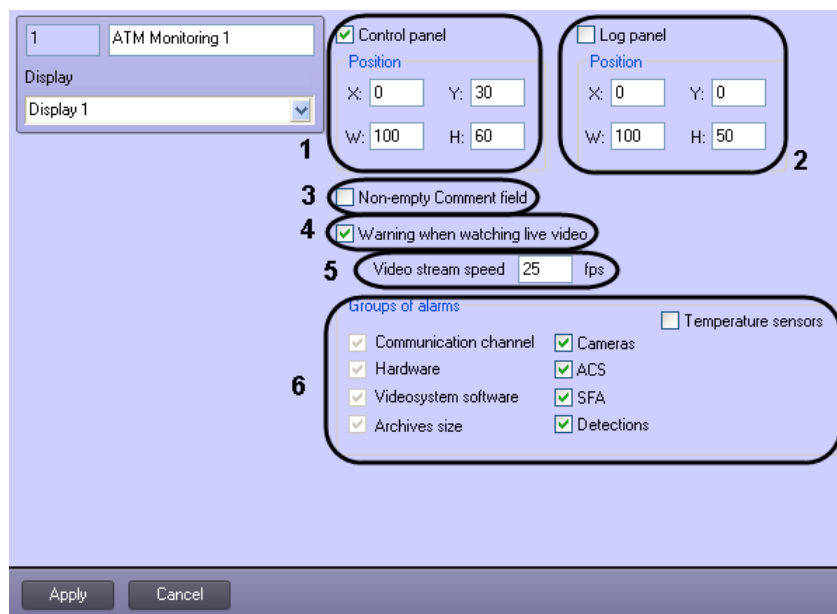

Figure 10.1—1 Configuring the ATM Monitoring object
1. Go to the **ATM Monitoring** settings panel (Figure 10.1—1).
2. If the **Control panel** displaying is needed, set the **Control panel** checkbox and specify its coordinates on the screen (Figure 10.1—1, 1).
3. If the **Log panel** displaying is needed, set the **Log panel** checkbox and specify its coordinates on the screen (see Figure 10.1—1, 2).
4. The setting **Non-empty comment field** is used if the operator is required to comment on the alarm and/or their actions when the alarm is accepted (see Figure 10.1—1, 3). This comment is available for viewing in the event log as well as the name of the operator who accepted the alarm.